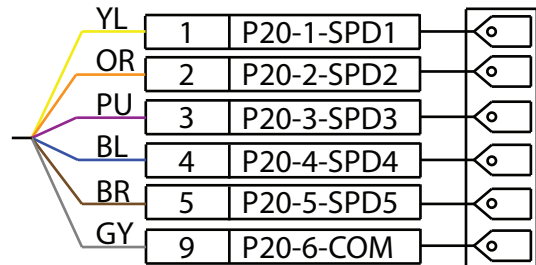

Fig. 27 — Constant Torque ECM Pin Diagram
3. Change the torque tap wire to on the molex plug to one of the five speed settings. See Fig. 27.